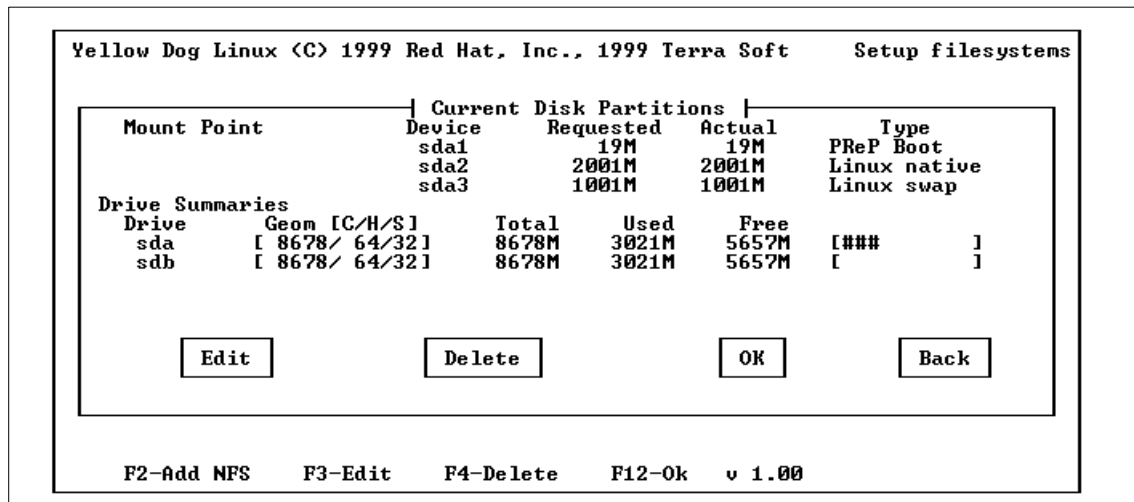
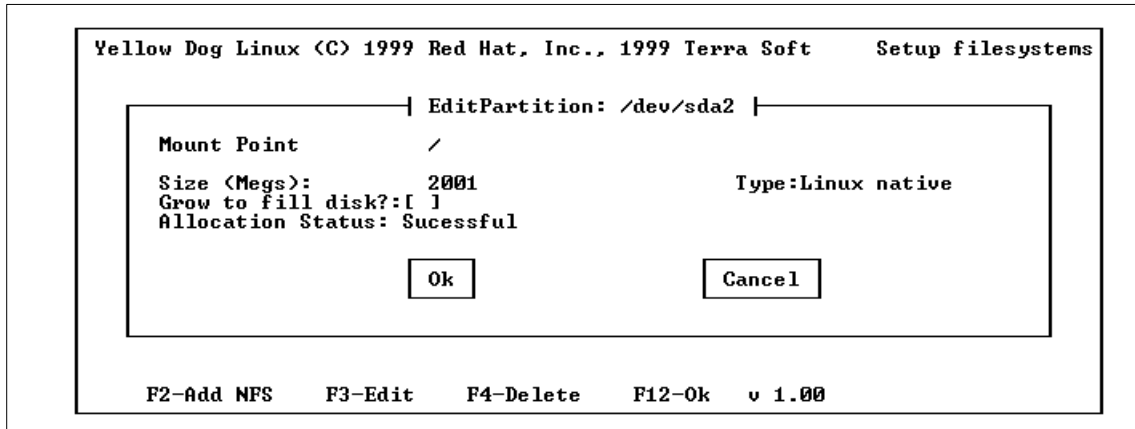

Figure 33. Filesystem Setup - 1
Figure 34. Filesystem Setup - 2
- Next, edit the mount point for /dev/sda2 (for your / partition) and other mount point. We selected /dev/sda2 as / (see Figure 33 and Figure 34 on page 168).